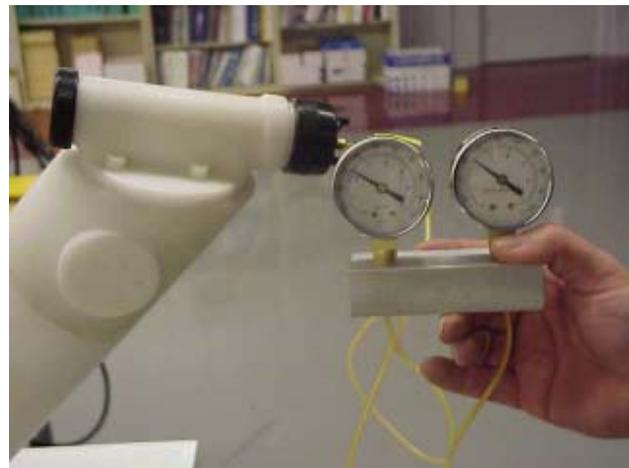

Figure 16: Fan and Atomization Air Test
2. Using the air cap test gauge to set (ITW Ransburg Test Gauge EMF-430-1 - not supplied) the air cap pressures to match the spray pressures used in production (see Figure 16).